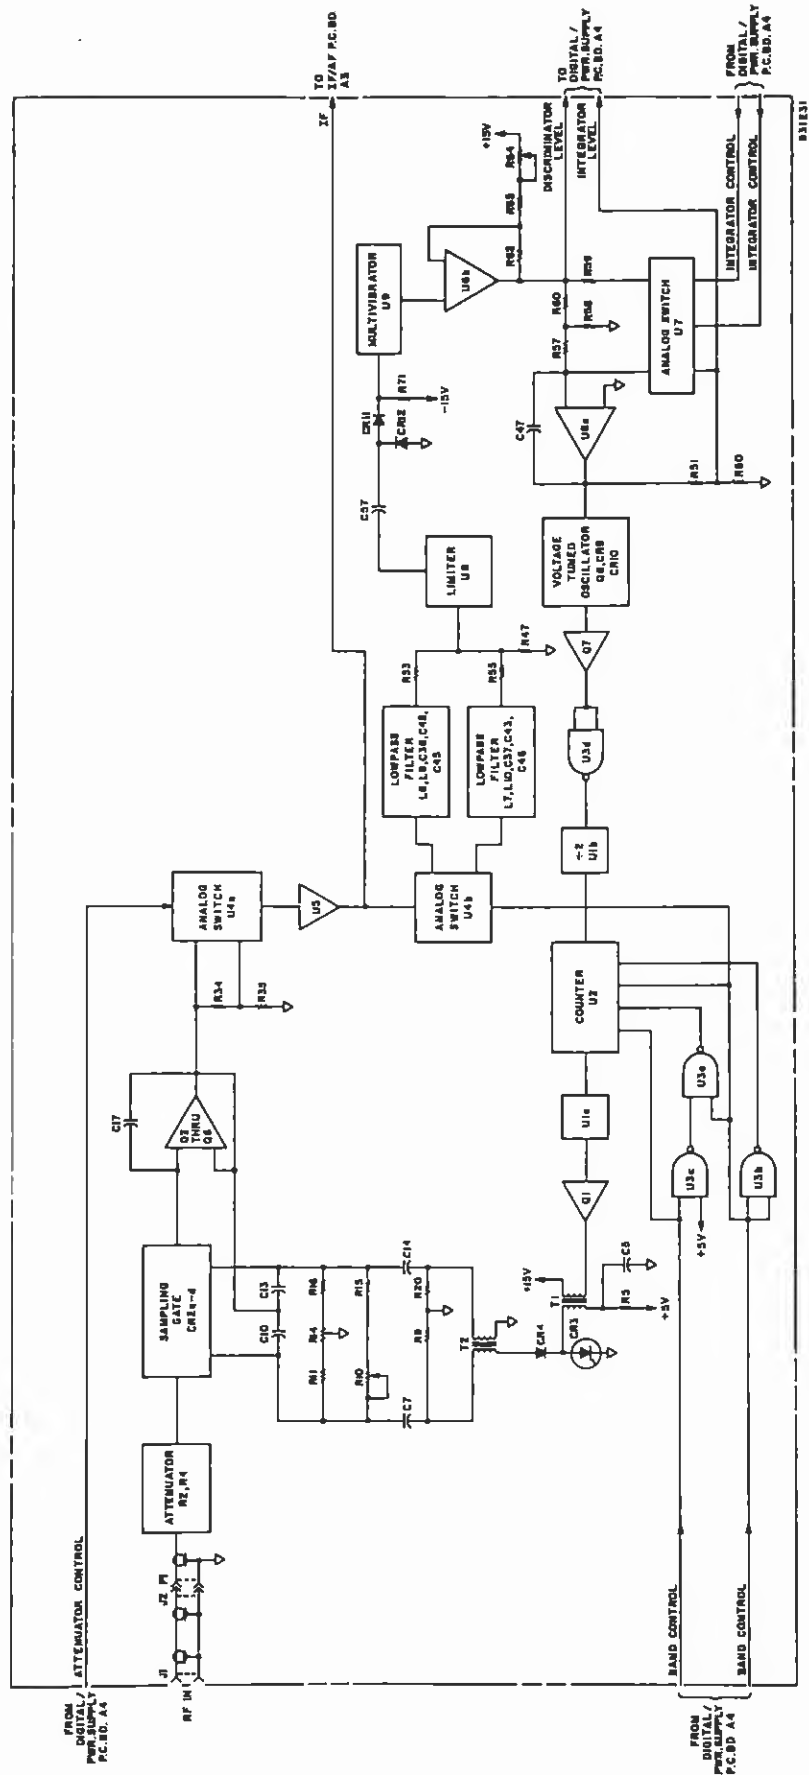

Figure 3-2. R.F. Circuits: Detailed Block Diagram
a. R.F. Circuits. The r.f. circuits convert the r.f. input signal that is to be measured into a 400 kHz i.f. signal. With the assistance of a microprocessor, a local-oscillator signal is generated and controlled so as to maintain this intermediate frequency. (Refer to Figure 3-2, a detailed block diagram of the r.f. circuits.)
- (1) The input signal applied to the front-panel RF IN connector, J1, is passed through connectors J2 and P1 to a fixed 3 dB pad, which consists of R2-R4. This pad reduces the r.f. level, and improves the impedance match to the incoming signal. The output of the pad is connected to a sampling gate consisting of diodes CR2a-CR2d. The sampling gate and sampler amplifier, consisting of transistors Q2